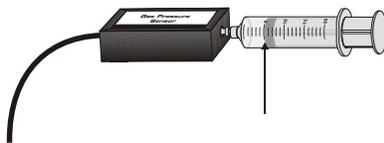

Figure 2
- Move the piston so the front edge of the inside black ring (see Figure 2) is positioned at the 5.0 mL line on the syringe. Hold the piston firmly in this position until the pressure value displayed on the screen stabilizes.